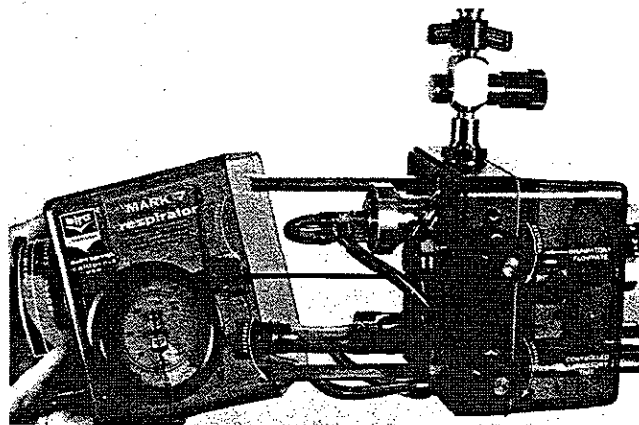

FIGURE 33
7.4 Carefully slide Ambient Compartment over hand timer rod until seated against the Centerbody (Fig. 33).